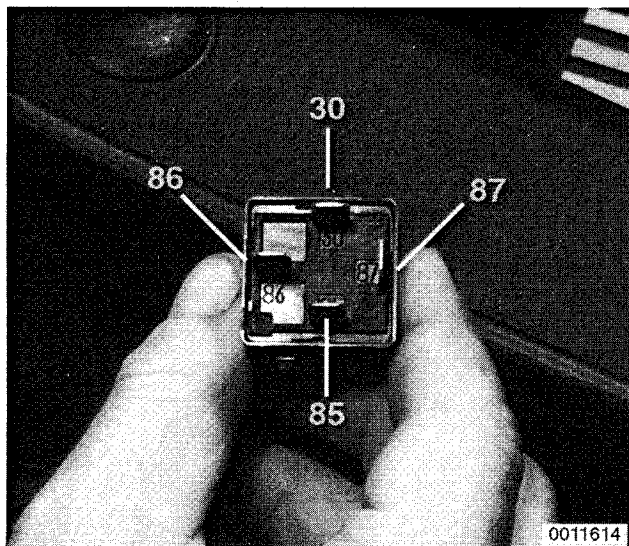

Fig. 8. Fuel pump relay terminal identification.
2. With key off, check for battery voltage at socket terminal 30. See Fig. 8.